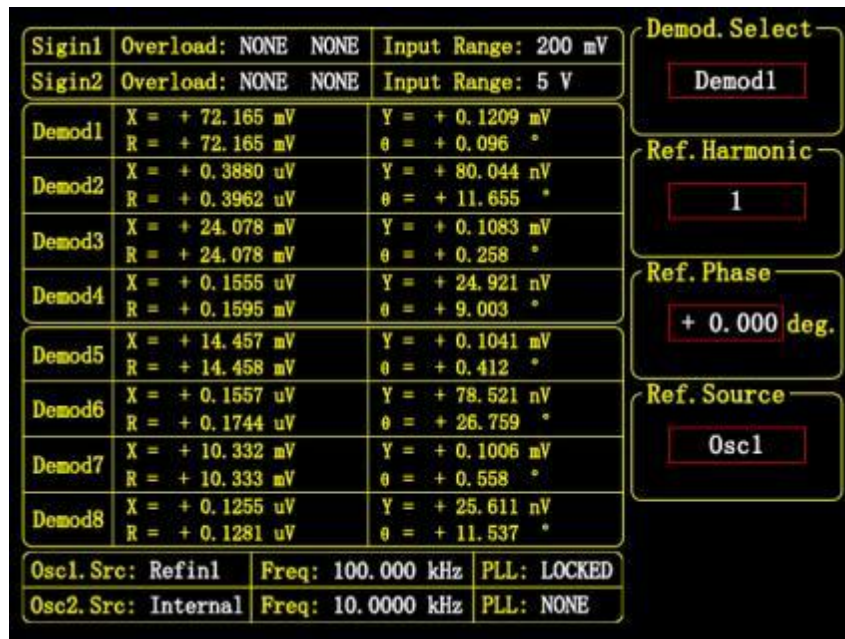

Figure 104. Harmonic Measurement Results of a Square Wave
- Then in the [DISPLAY] submenu, press "Soft Key 2" to set <Display Mode> to <Full> mode, as shown in Figure 104, to display the measurement results of all fundamental and harmonic waves.
According to the above algorithm, the measured values can be compared with the theoretical calculated values. As shown in the measurement results of Figure 104, the measured values are consistent with the theoretical values.